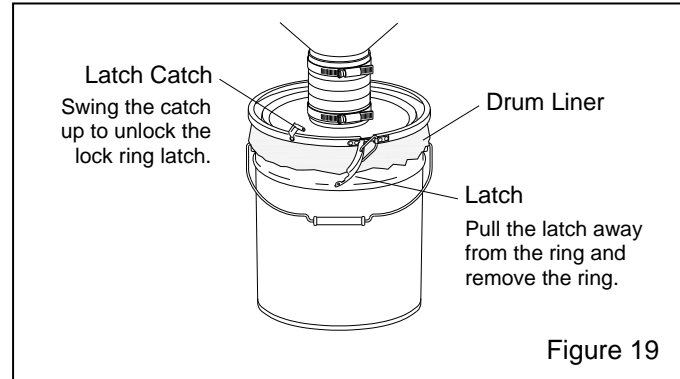

Figure 19
6.1.2 Turn off the exhauster and release the lid lock ring from the dust container as shown in Figure 19.